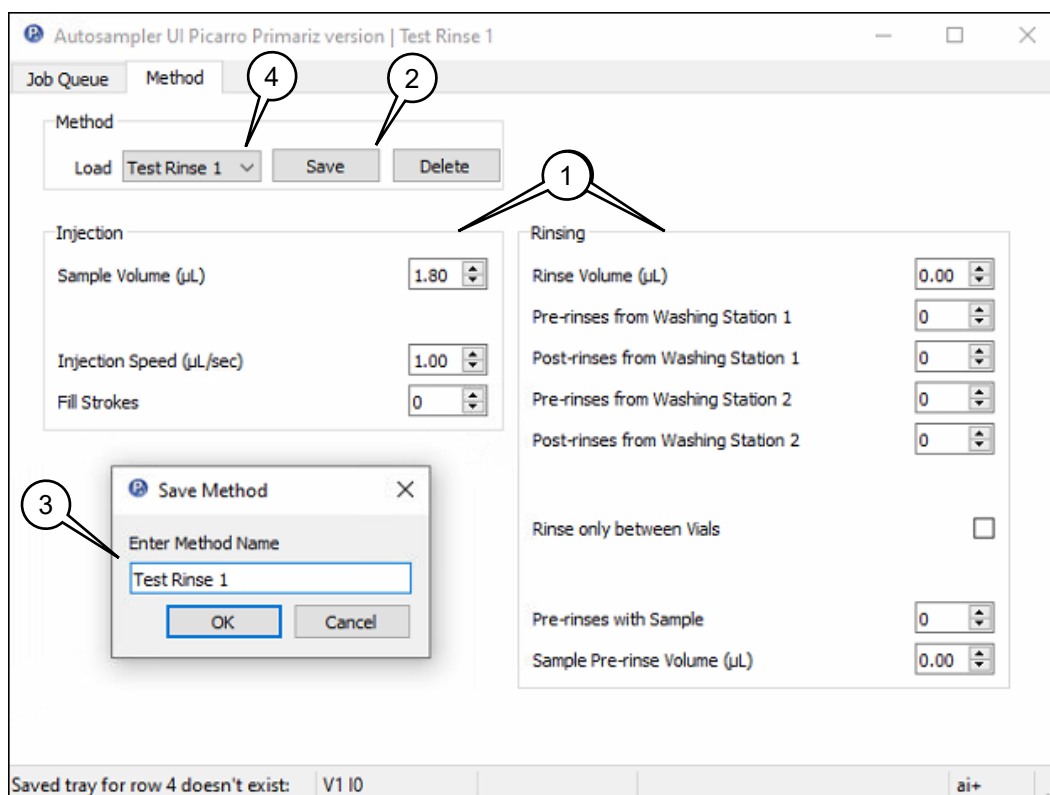

Figure 72: Method Tab/Creating a New Method
4. The new method displays in the **Method** drop-down menu as shown in Figure 72.